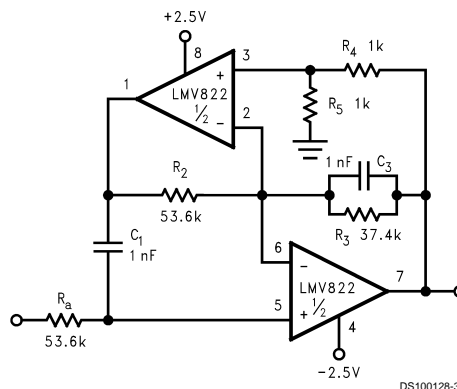
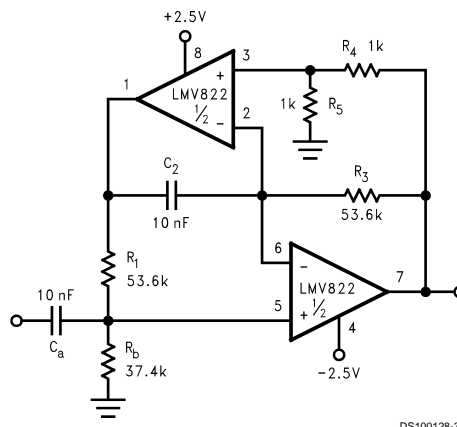
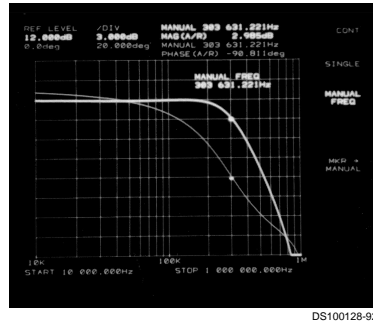

FIGURE 10. Dual Amplifier, 3 kHz Low-Pass Active Filter with a Butterworth Response and a Pass Band Gain of Times Two
FIGURE 11. Dual Amplifier, 300 Hz High-Pass Active Filter with a Butterworth Response and a Pass Band Gain of Times Two
FIGURE 12. 300 kHz, Low-Pass Filter, Butterworth Response as Measured by the HP3577A Network Analyzer
The LMV822/24 bring economy and performance to DAAFs. The low-pass and the high-pass filters of Figure 10 and Figure 11 (respectively), offer one key feature: excellent sensitivity performance. Good sensitivity is when deviations in component values cause relatively small deviations in a filter's parameter such as cutoff frequency (F_c). Single amplifier active filters like the Sallen-Key provide relatively poor sensitivity performance that sometimes cause problems for high production runs; their parameters are much more likely to deviate out of specification than a DAAF would. The DAAFs of Figure 10 and Figure 11 are well suited for high volume production.
Single Amplifier versions require a large open-loop to closed-loop gain ratio - approximately 50 to 1, at the F_c of the filter response. Figure 12 shows an impressive photograph of a network analyzer measurement (hp3577A). The measurement was taken from a 300kHz version of Figure 10. At 300 kHz, the open-loop to closed-loop gain ratio @ F_c is about 5 to 1. This is 10 times lower than the 50 to 1 "rule of thumb" for Single Amplifier Active Filters.
In addition to performance, DAAFs are relatively easy to design and implement. The design equations for the low-pass and high-pass DAAFs are shown below. The first two equations calculate the F_c and the circuit Quality Factor (Q) for the LPF (Figure 10). The second two equations calculate the F_c and Q for the HPF (Figure 11).
To simplify the design process, certain components are set equal to each other. Refer to Figure 10 and Figure 11. These equal component values help to simplify the design equations as follows:
To illustrate the design process/implementation, a 3 kHz, Butterworth response, low-pass filter DAAF (Figure 10) is designed as follows: